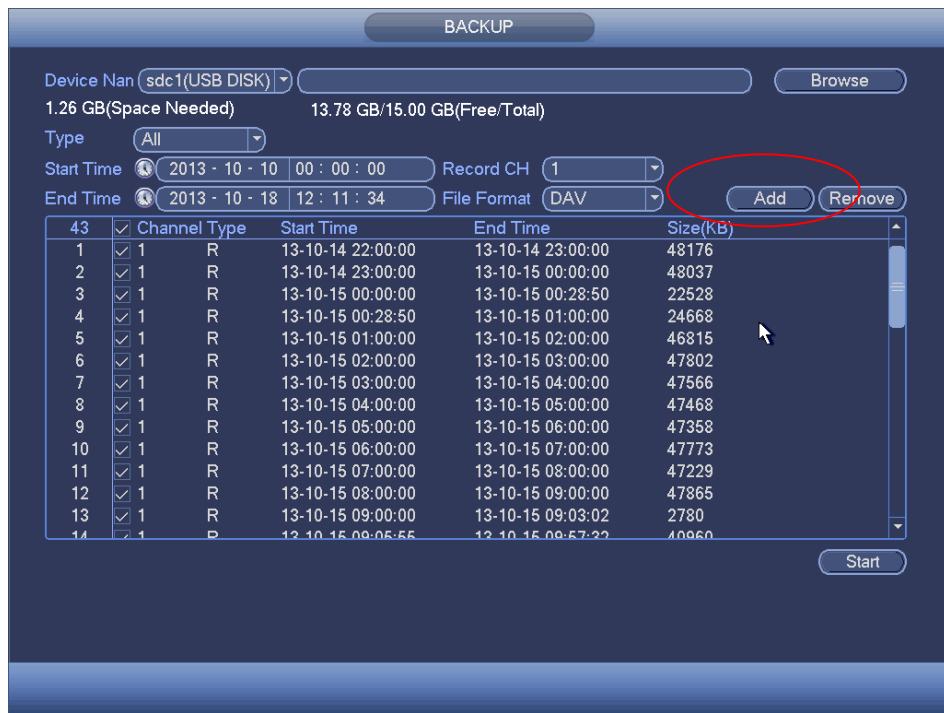

Figure 3-93
- Click add button, system begins search. All matched files are listed below. System automatically calculates the capacity needed and remained. See Figure 3-93.